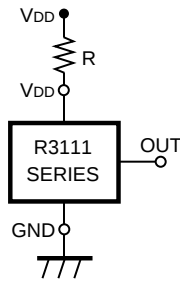

Figure 9
1. In Figure 9, When R3111xxx1C is used, and if an impedance is connected in between Voltage Supplier and the VDD Pin of R3111xxx1C Series, the operation might be unstable by through-type current at detection. When R3111xxx1A is used in Figure 9, if the value of R is set excessively large, voltage drop may occur caused by supply crrent of IC itself and Detector threshold may vary.